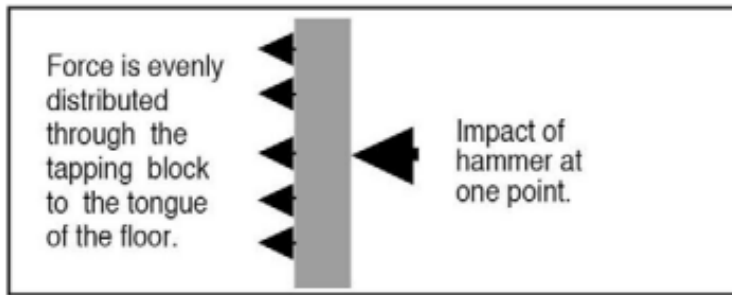
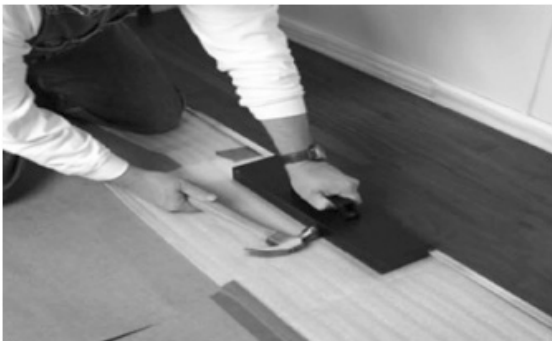

FIGURE 4
FIGURE 5
1) Using the Tapping Block, lightly tap each piece for the first 3-4 rows. After the first 3-4 rows, you should only need the Tapping Block every third row. Start tapping in the plank at the opposite end along the length working from left to right, making sure the plank fully engages as you progress down the length. (Figure 4)
The Tapping Block square edge is needed to distribute equal force across the tongue without any damage. (Figure 4 and Figure 5) For best results, slide the tapping block along the sub floor and row, tapping lightly with a hammer, using tapping strokes to engage the locking system. If the planks are not locking, check to see if the planks are moving against the wall with the strikes. If so, adjust shims or use the screw down starter row method.